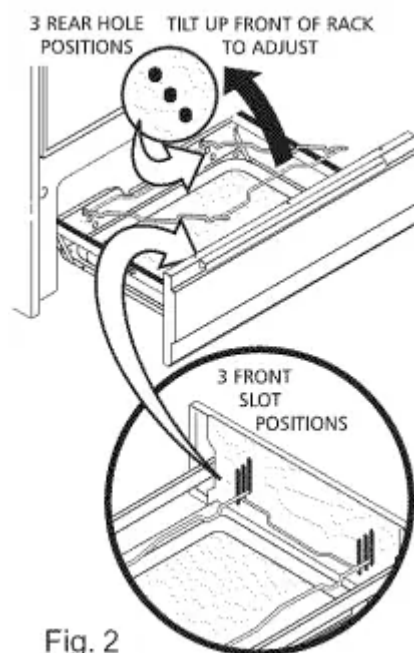

Fig. 2
4. Position rack by tilting front of rack and pulling rack out from locating holes in rear of broiler drawer. Reposition back of rack in the desired locating holds and allow front of rack to slide down into the corresponding slots in front of broiler drawer (See Fig. 2).
2. Remove 2 screws located on the inside of the oven door liner (See A Fig. 2)
3. Insert the 2 screws into the door hinge holes located on the side of the hinge arm, one into each hinge (See B Fig. 2).
5. Reinstall the 2 screws into the door liner (See C Fig. 2).